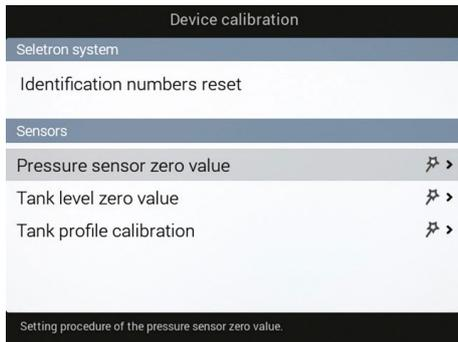

Fig. 142
**1** Select **Pressure sensor zero value** (Fig. 142) and press **[OK]**.